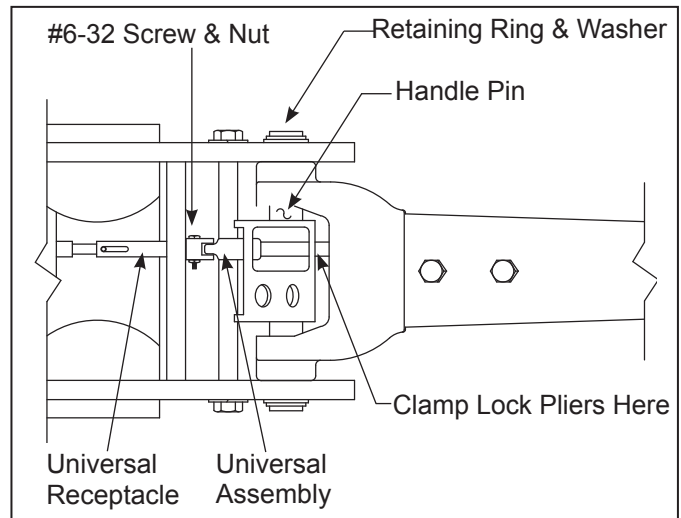

Figure 1- Assembly Illustration for HW93657 & HW93667
1. *Models HW93657 and HW93667:* (ref. figure 1)